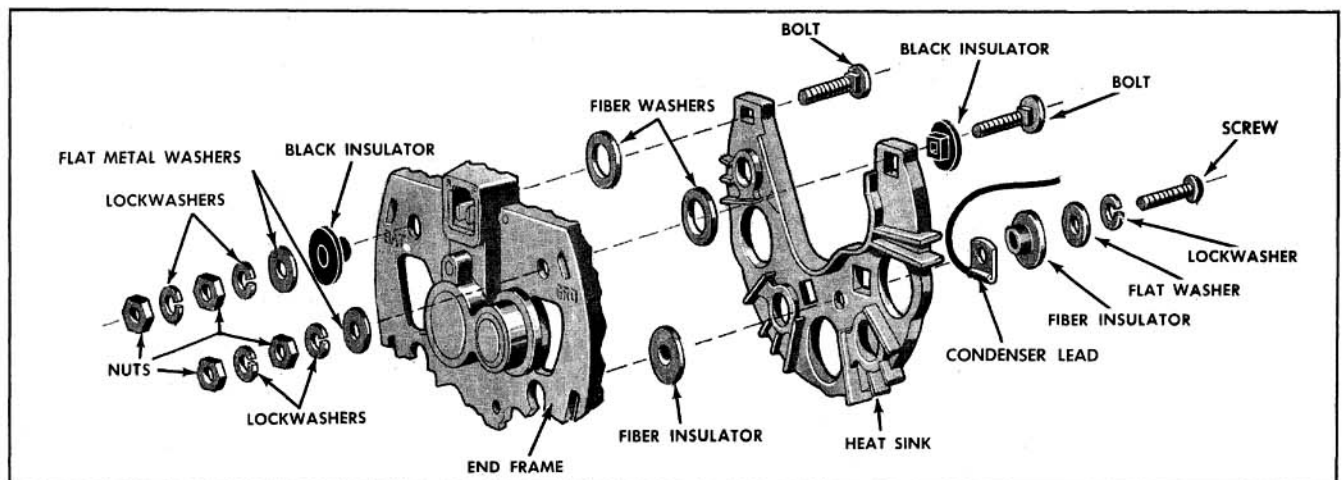

Fig. 13-40 Slip Ring End Frame
2. Install the heat sink, making sure insulated washers are installed as shown in Fig. 13-40.